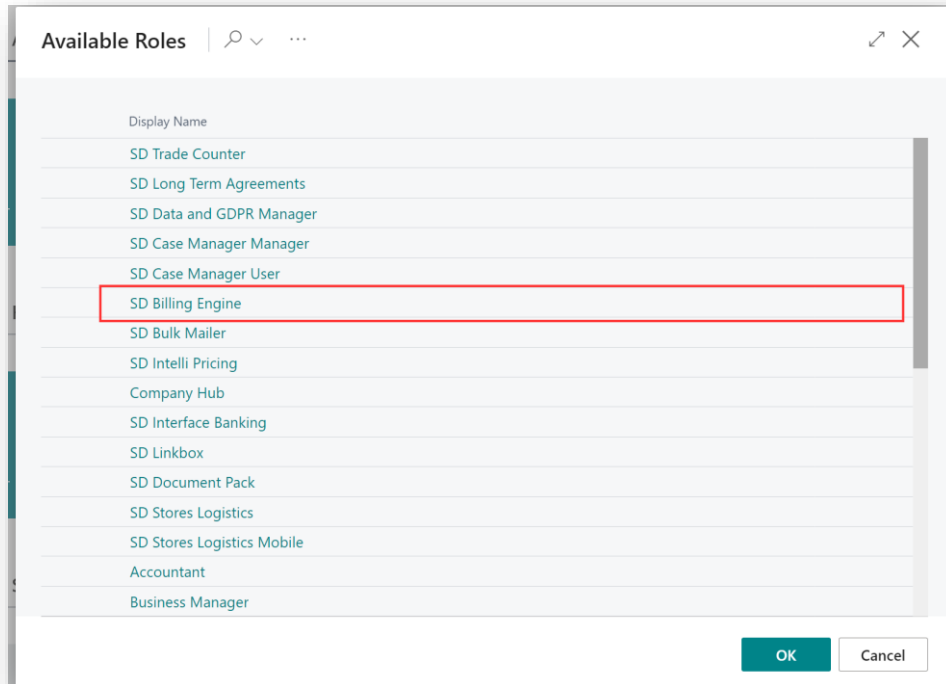

Figure 4-8
3. You should see **SD Billing Engine** in the list of Roles (Figure 4-8).